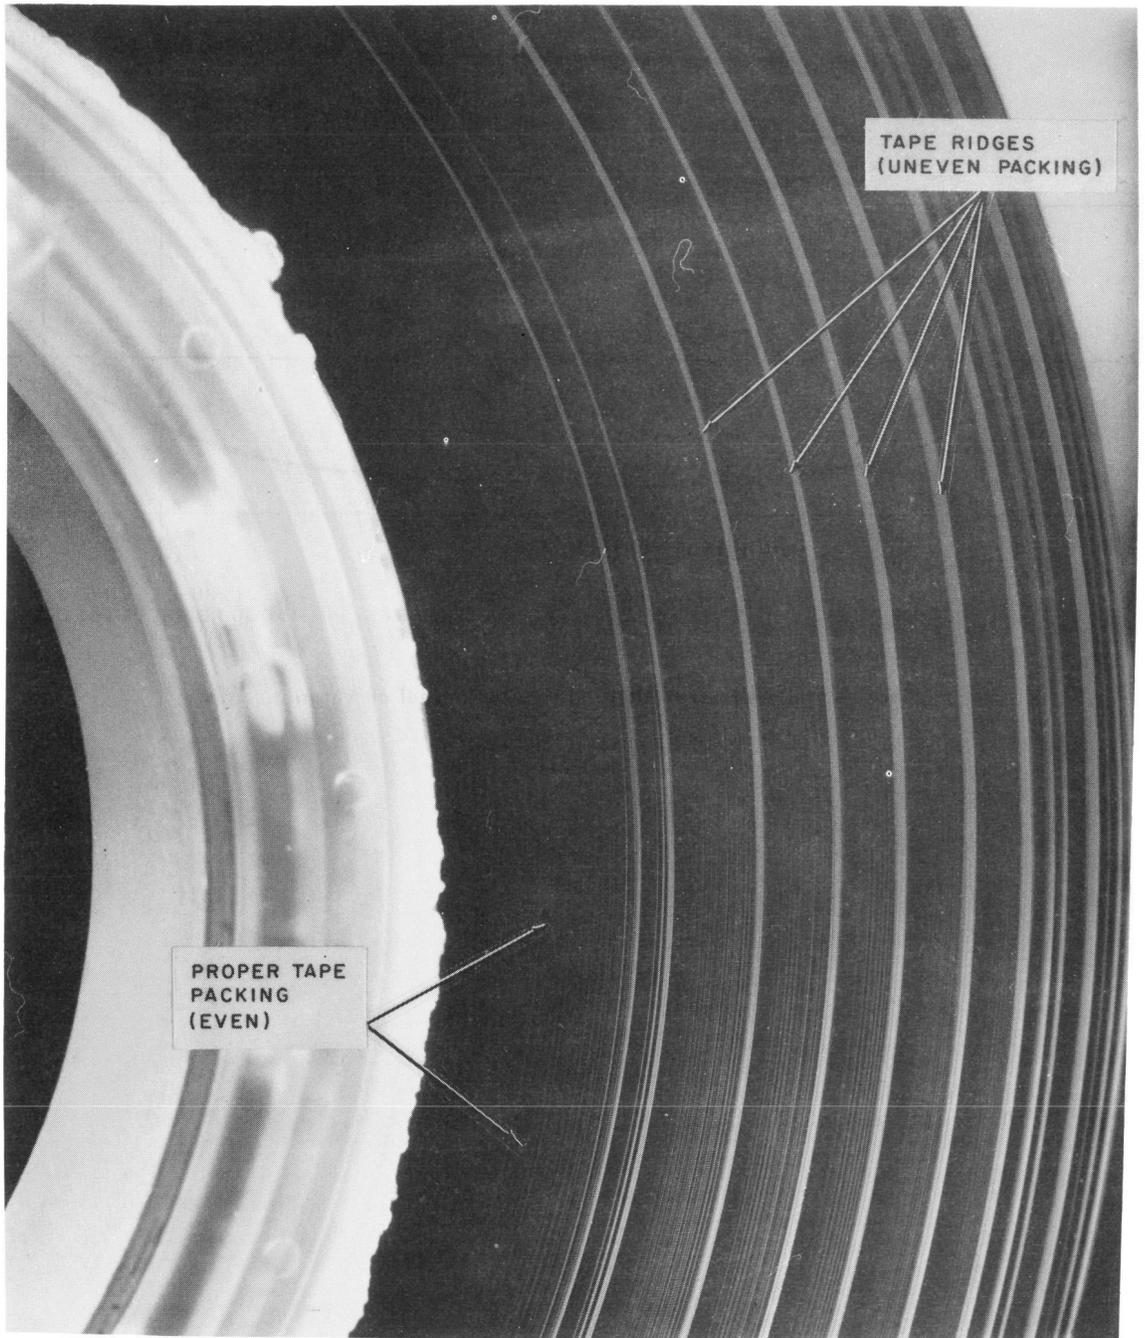

Fig. 1—Uneven Tape Packing on a Reel of Magnetic Tape
**6.01** A reel of magnetic tape should be rewound before use if the tape packing shows severe unevenness as shown in Fig. 1. The rewind procedure is also used to exercise a magnetic tape before use after 6 weeks of storage. Tape exercise can be accomplished by performing a complete forward and reverse tape wind at continuous speed.